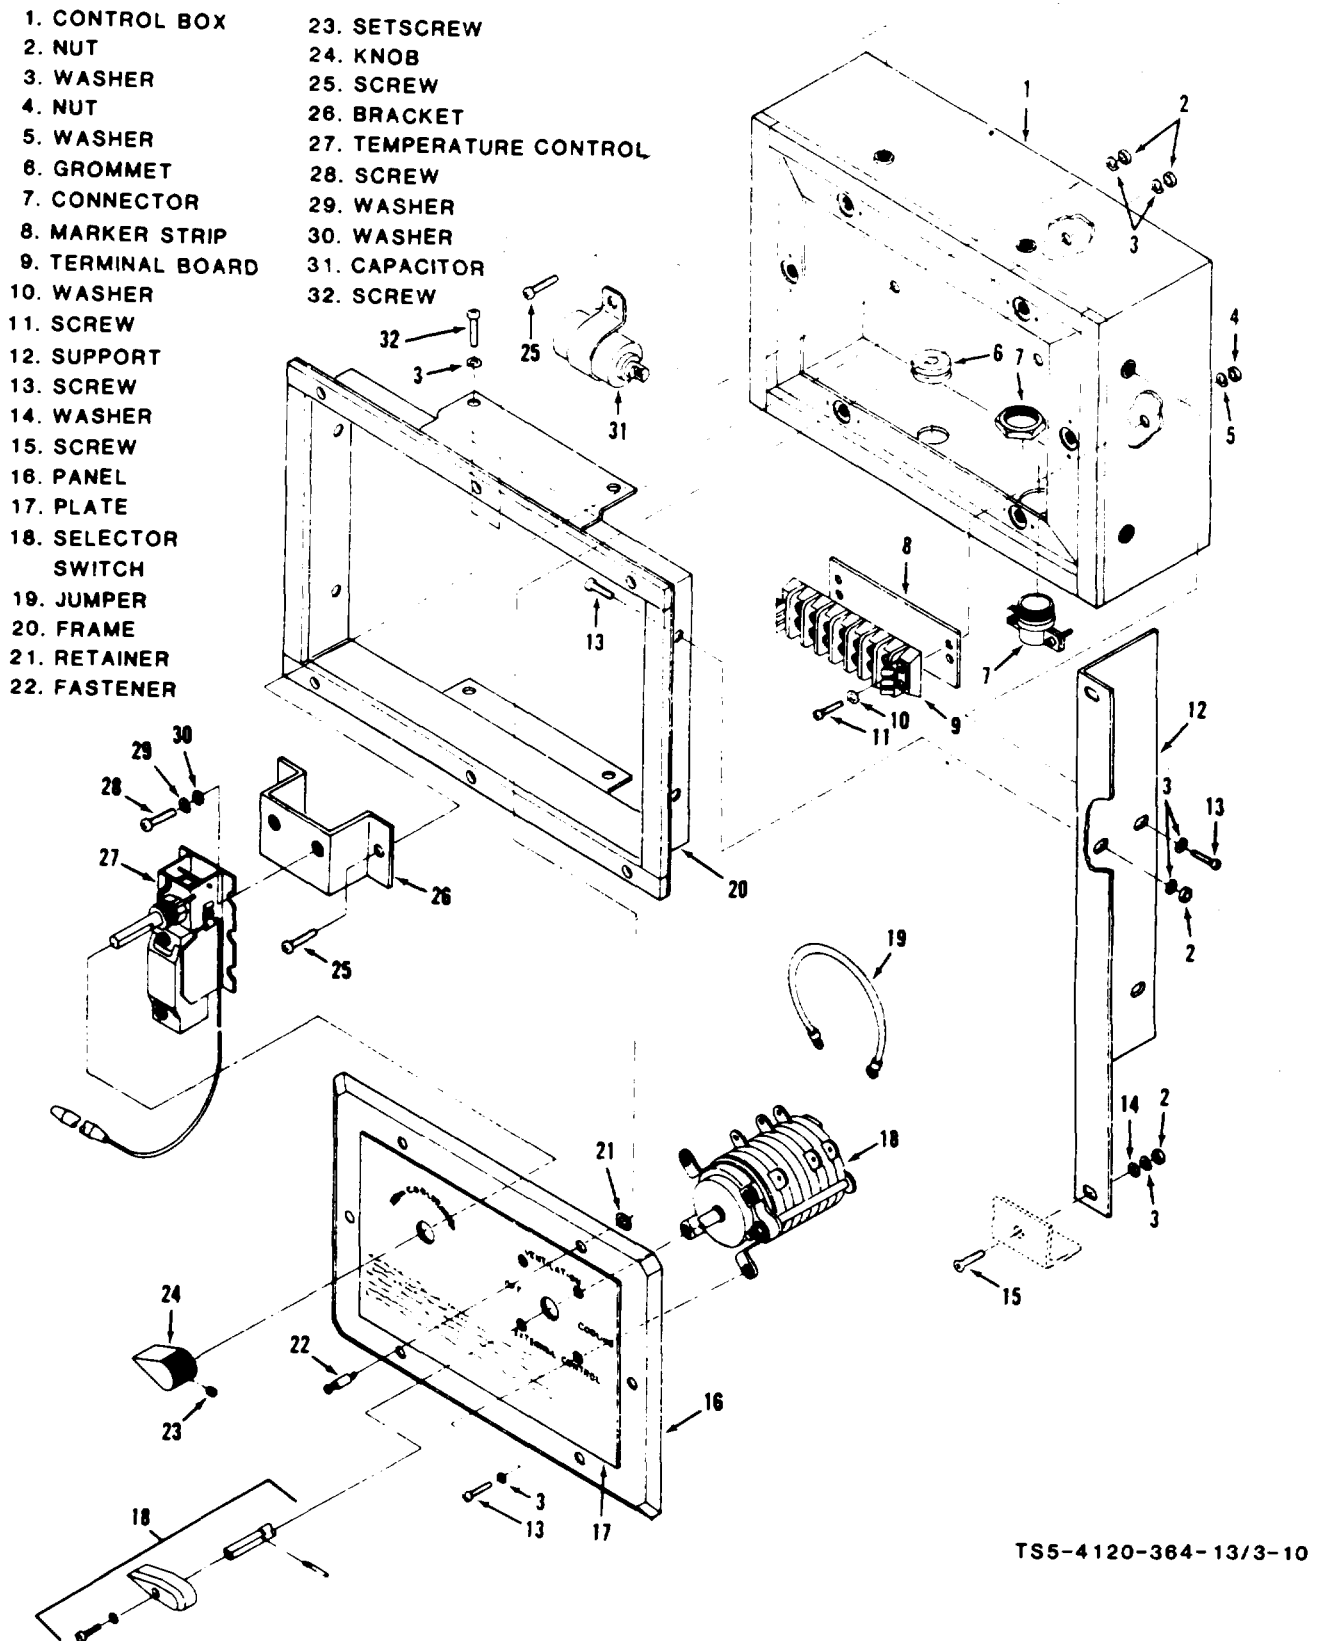

Figure 3-10. Control panel and controls
(c) Loosen setscrew (23, figure 3-10 and remove knob (24) from temperature control (27).
(1) Removal.
(a) Refer to figure 3-10 and remove setscrew (23) and knob (24).
d. Temperature Control. Access to the temperature control is gained by removing knob (24, figure 3-10) from shaft of temperature control (27) and turning fasteners (22) one-quarter turn counterclockwise and removing control panel (16).